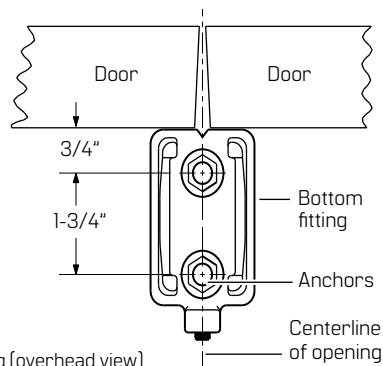

Figure 4 Installing bottom fitting (overhead view)
- Center bottom fitting on floor between and flush with closed doors. See **Figure 4**.